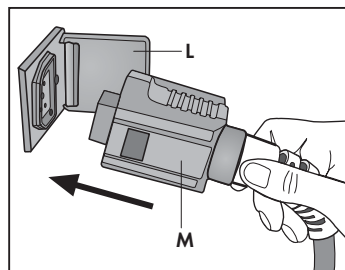

Fig. 21
- Select the appropriate steam volume at the steam control knob (D)
- Flick the accessory socket door (L) wide open and plug the quick connection (M) of the iron into the socket on the front of the appliance. Press the connection in as far as it will go. **(Fig. 21)**